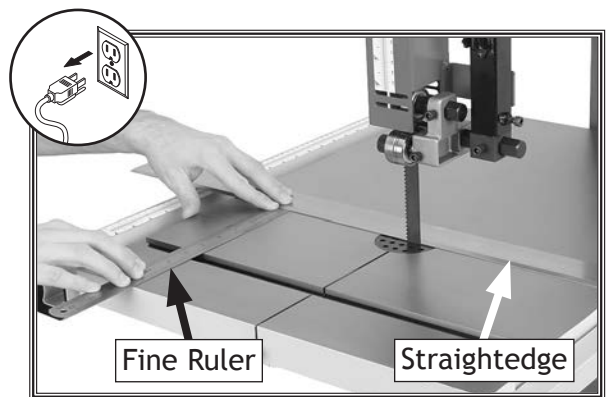

Figure 58. Checking miter slot parallelism.
3. Place an accurate straightedge along blade so that it lightly touches both front and back of blade without going across a tooth (see **Figure 58**).
4. Use a fine ruler to measure distance between straightedge and miter slot (see **Figure 58**). Distance should be the same at front and back of table.